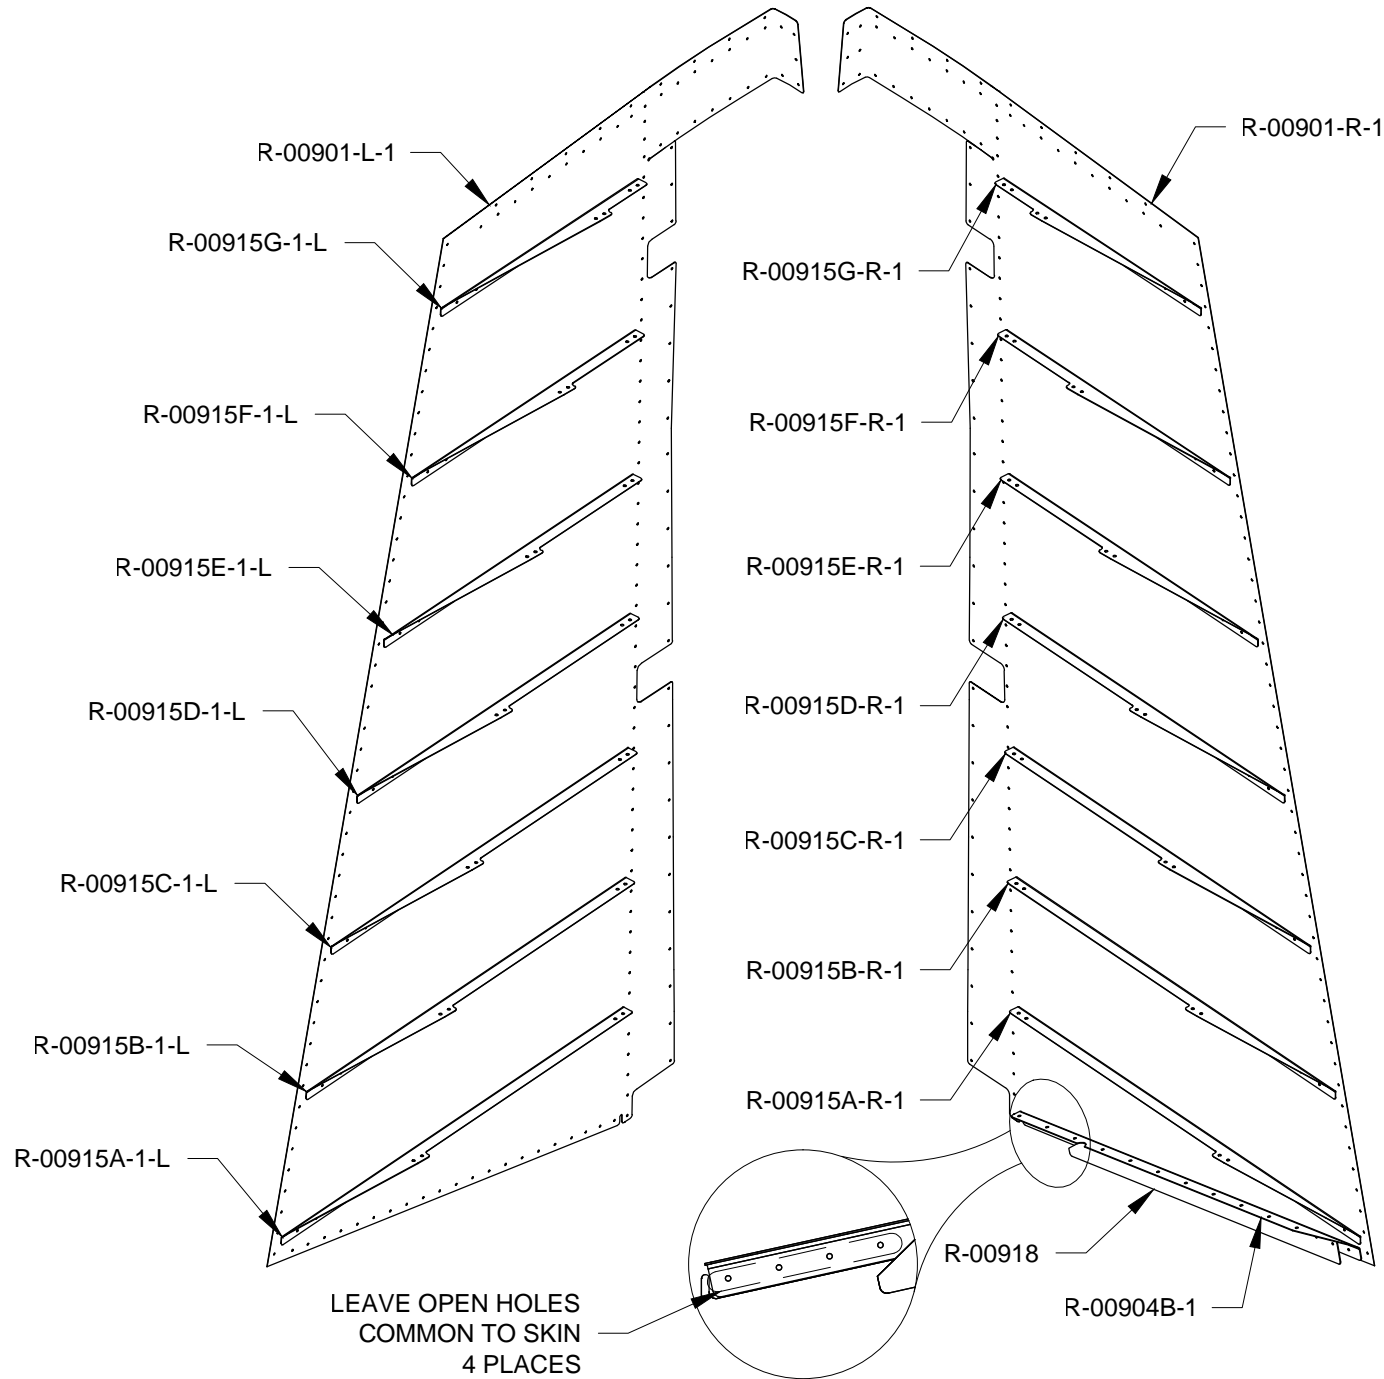

FIGURE 1: RIVETING STIFFENERS
Step 2: Back rivet the R-00904B-1 Bottom Rib and the R-00918 Attach Strip to the R-901-R-1 Skin as shown in Figure 1. Take care to leave open the rivet locations called out in Figure 1. The bottom rib is located between the skin and the attach strip as shown in Figure 1 and 2.